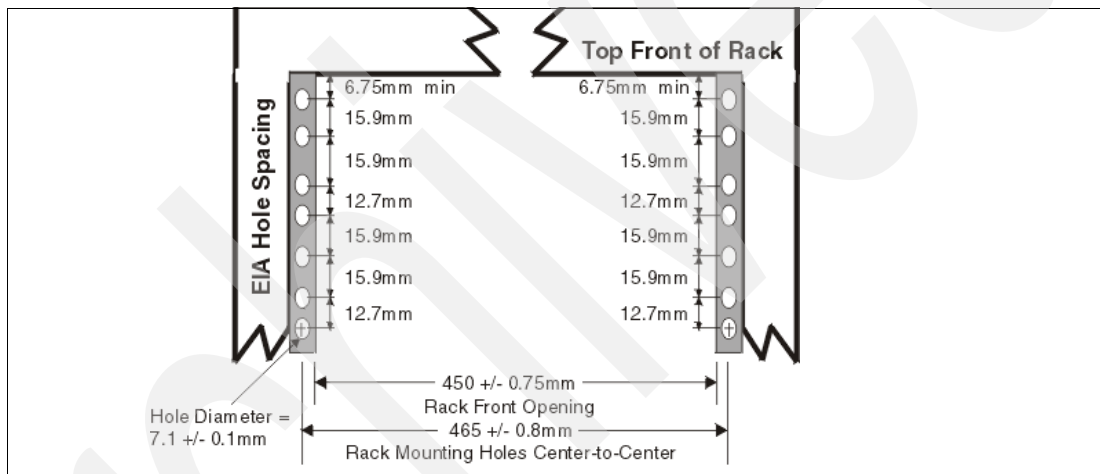
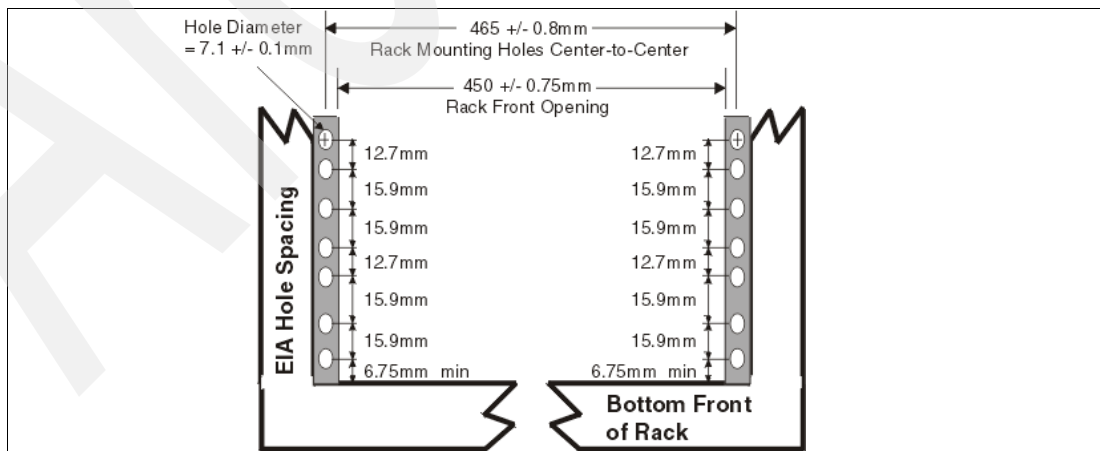

Figure 1-5 Rack specifications dimensions, top front view
Figure 1-6 Rack specifications dimensions, bottom front view
- ▶ The vertical distance between mounting holes must consist of sets of three holes spaced (from bottom to top) 15.9 mm (0.625 inches), 15.9 mm (0.625 inches), and 12.67 mm (0.5 inches) on center (making each three-hole set of vertical hole spacing 44.45 mm (1.75 inches) apart on center). Rail-mounting holes must be 7.1 mm + 0.1 mm (0.28 inches + 0.004 inches) in diameter. See Figure 1-5 and Figure 1-6 for top and bottom front specification dimensions.